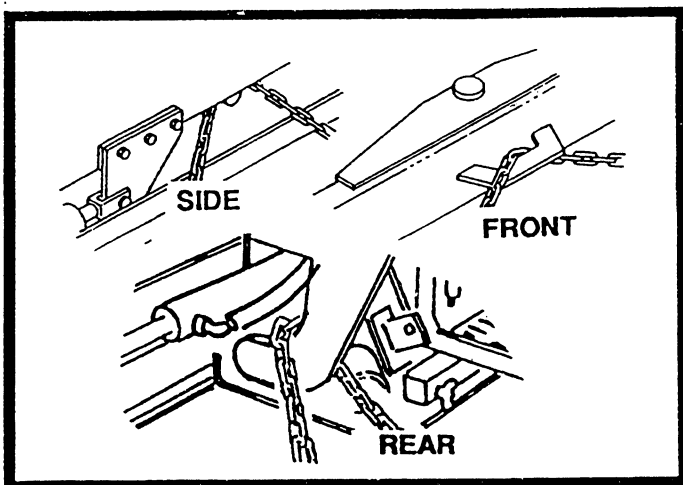

FIGURE 17
- Refer to figure 17, three tie down points are shown. Because of the varying characteristics of the truck bed or trailer bed in use, it is not practical to describe the correct method to chain the paver down. In all cases the front tie point should be used. Depending on the truck or trailer used, at least one of the other tie points should also be used.